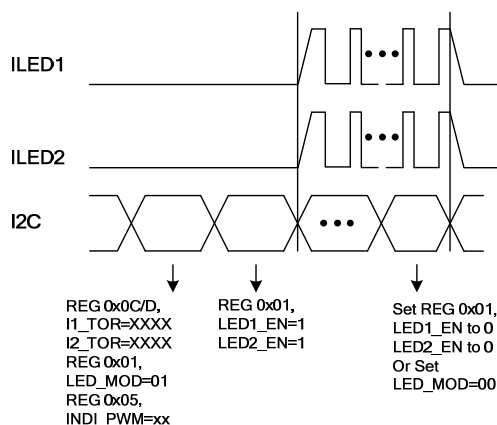

Figure 3: Indicator Mode
When `LED_MOD` is set to 01 and `LED_EN1/2` is set to 1, the MP3336A enters indicator mode, which provides a low-current output (see Figure 3). In this mode, the driver current sources work in a 31.5kHz PWM dimming mode. The current amplitude can be set by `I1_TOR` and `I2_TOR`, while the indicator current step ramps up more quickly at a rate of 7.84mA/step, compared to assist mode's ramp-up rate of 1.25mA/step. The final amplitude in this mode can be calculated with Equation (1):